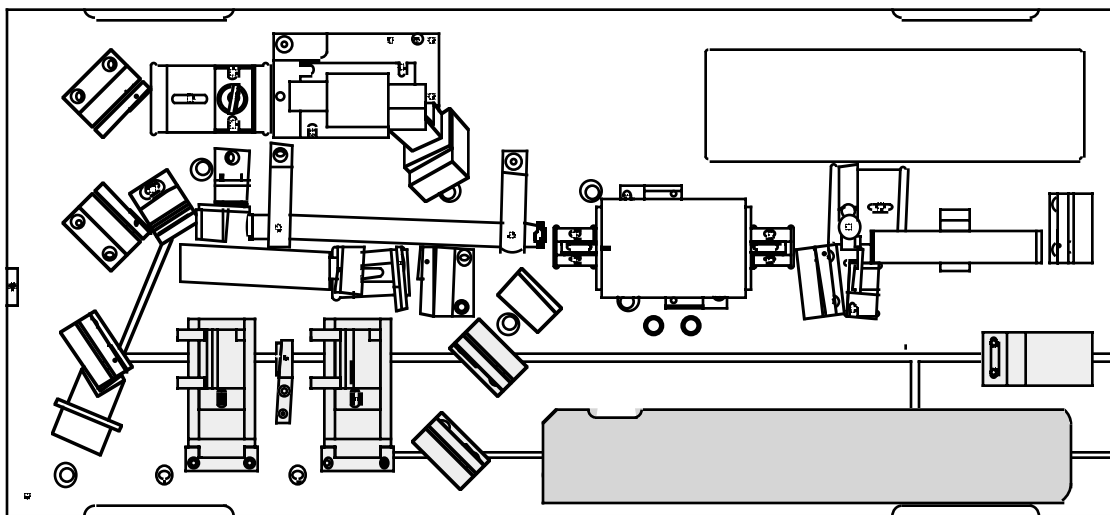
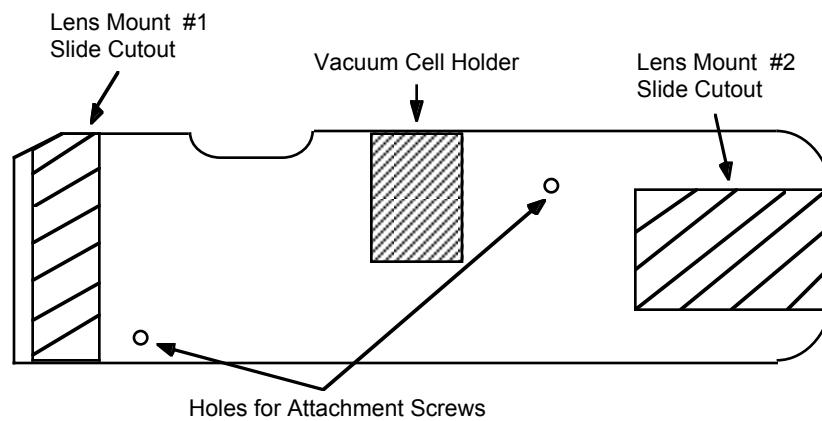

Figure 5-14. Orientation of steering dichroic mounts, IR beam dump, and Infinity Telescope base plate.
Figure 5-15. Overview of Telescope Mount Baseplate
1. An overview of the installed telescope baseplate, location in head, is given in Figure 5-14. Align the mount baseplate so that the two attaching holes, indicated in Figure 5-15, line up with threaded holes in the Infinity baseplate. Secure the telescope mount baseplate to the Infinity head baseplate.